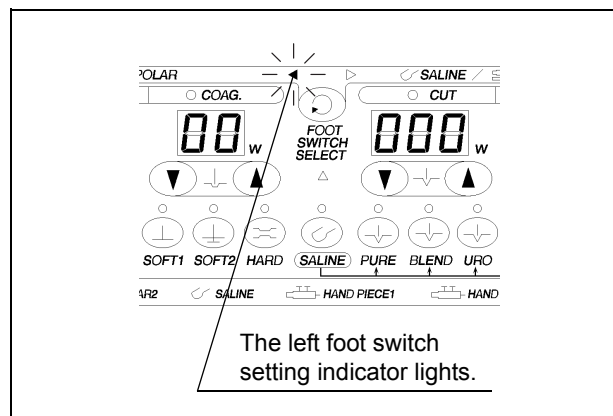

Figure 5.5
3. When the bipolar output is required, press the foot switch select switch so that the left foot switch setting indicator lights (see Figure 5.5).